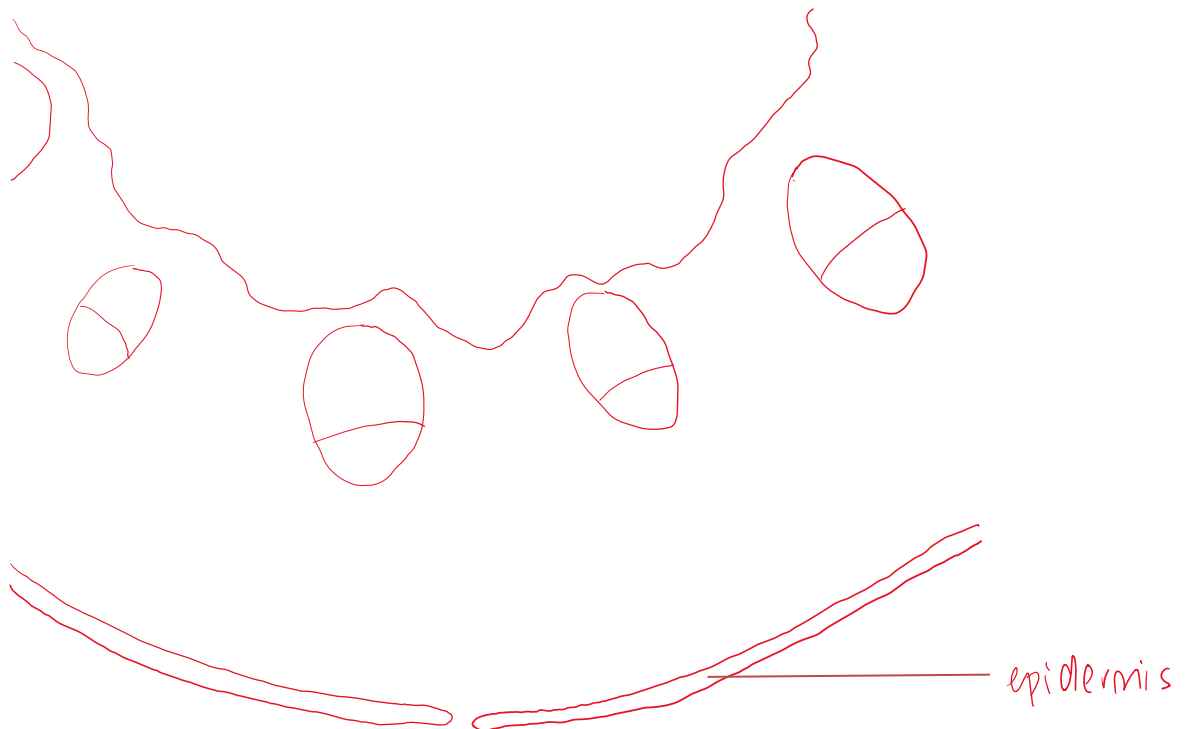
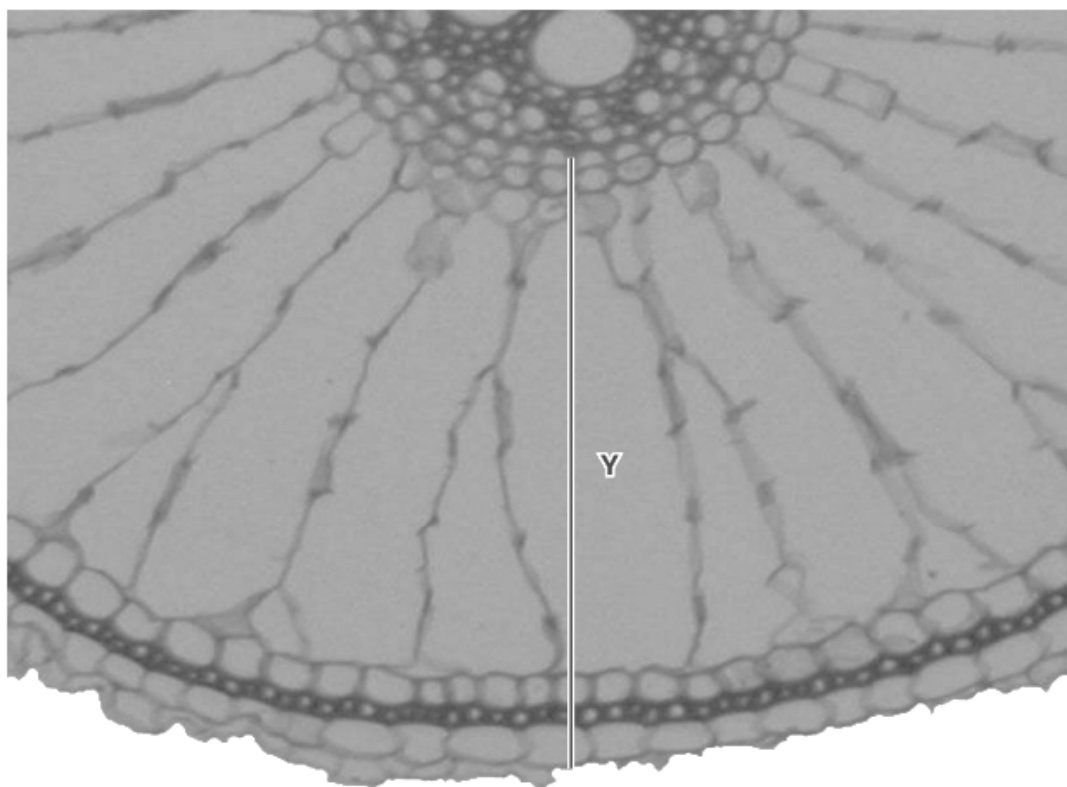

Fig. 2.1
Fig. 2.2
2 Fig. 2.1 is a photomicrograph of a transverse section through part of a stem.
(a) Draw a large plan diagram of the specimen shown in Fig. 2.1.
Fig. 2.2 is a photomicrograph of a transverse section through part of a different plant organ from a different plant species.
- (b) (i)** Prepare the space below so that it is suitable for you to record **two** observable differences between the specimens in Fig. 2.1 and in Fig. 2.2.
1. Table drawn with Fig. 2.1 and Fig. 2.2 as headings ;
- (ii) The actual length of line Y is 495 μm . Use this measurement to calculate the magnification of Fig. 2.2.